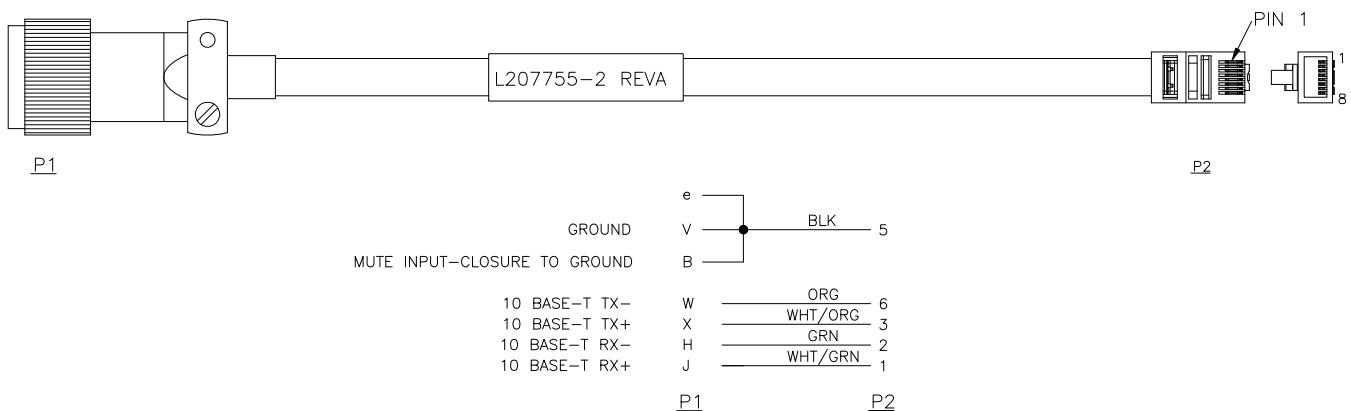

Figure 3-5: Ethernet Quick Start Cable, 207755 (Revision A and beyond)
For convenience all units ship with a ‘Quick-Start’ communications cable. This allows the user to immediately connect the amplifier to a PC and begin operation. Units ship with a Quick Start cable fitted with a 10-base T connector as shown in **Figure 3-5**.
5. Connect the supplied "Quick-Start" Control Cable from Port J4 of the SSPA to one of the COM ports on your computer. This connection will unmute the amplifier. Review the cable schematic in **Figure 3-5**.